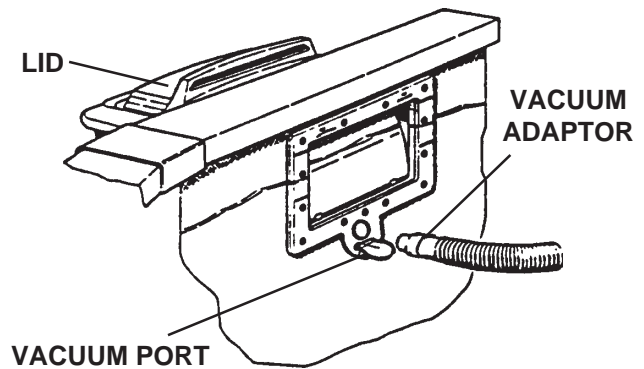

FIG. 7
3. Bend the vacuum port cover (15) to the down position. Insert the tapered end of the vacuum adaptor with hose attached into exposed opening using a twisting motion. (Fig. 7).